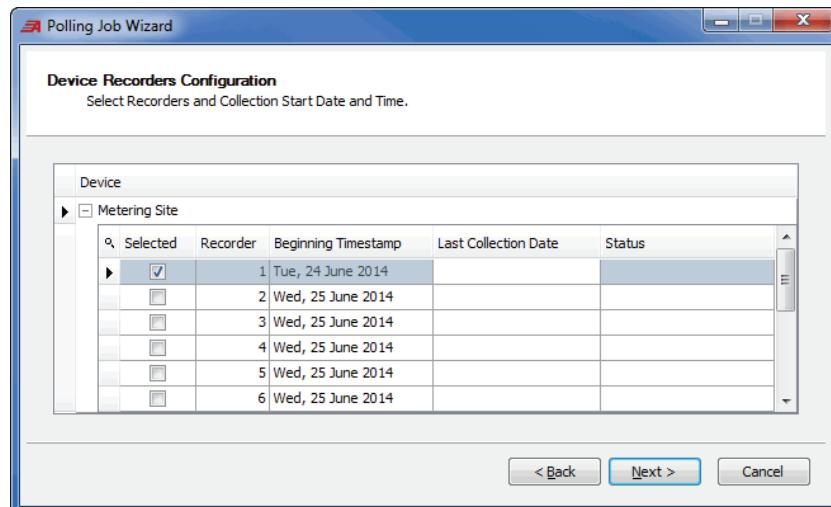

Figure 192 Device Recorders Configuration
- Step 4. Select (+) to expand the recorder view for the **Metering Site** device. Select the box under **Selected** for Recorder 1, set **Beginning Timestamp** to the previous day's date, and select **Next**. *Figure 192* shows the **Device Recorders Configuration** window.